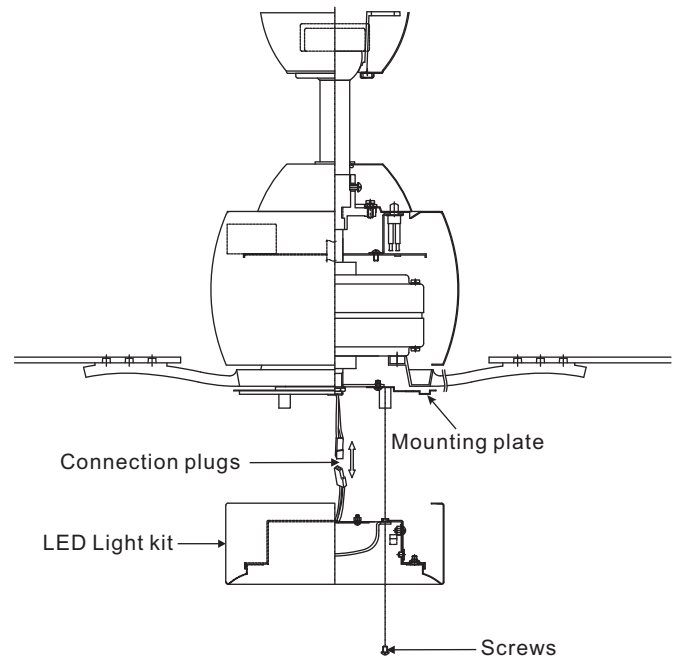

Figure 15
Step 3. Place the key holes on the LED light kit over the 2 screws previously loosened, and turn the LED light kit until it locks in place at the narrow section of the key holes. Secure by tightening the 2 screws previously loosened and the one previously removed. (Fig. 15)